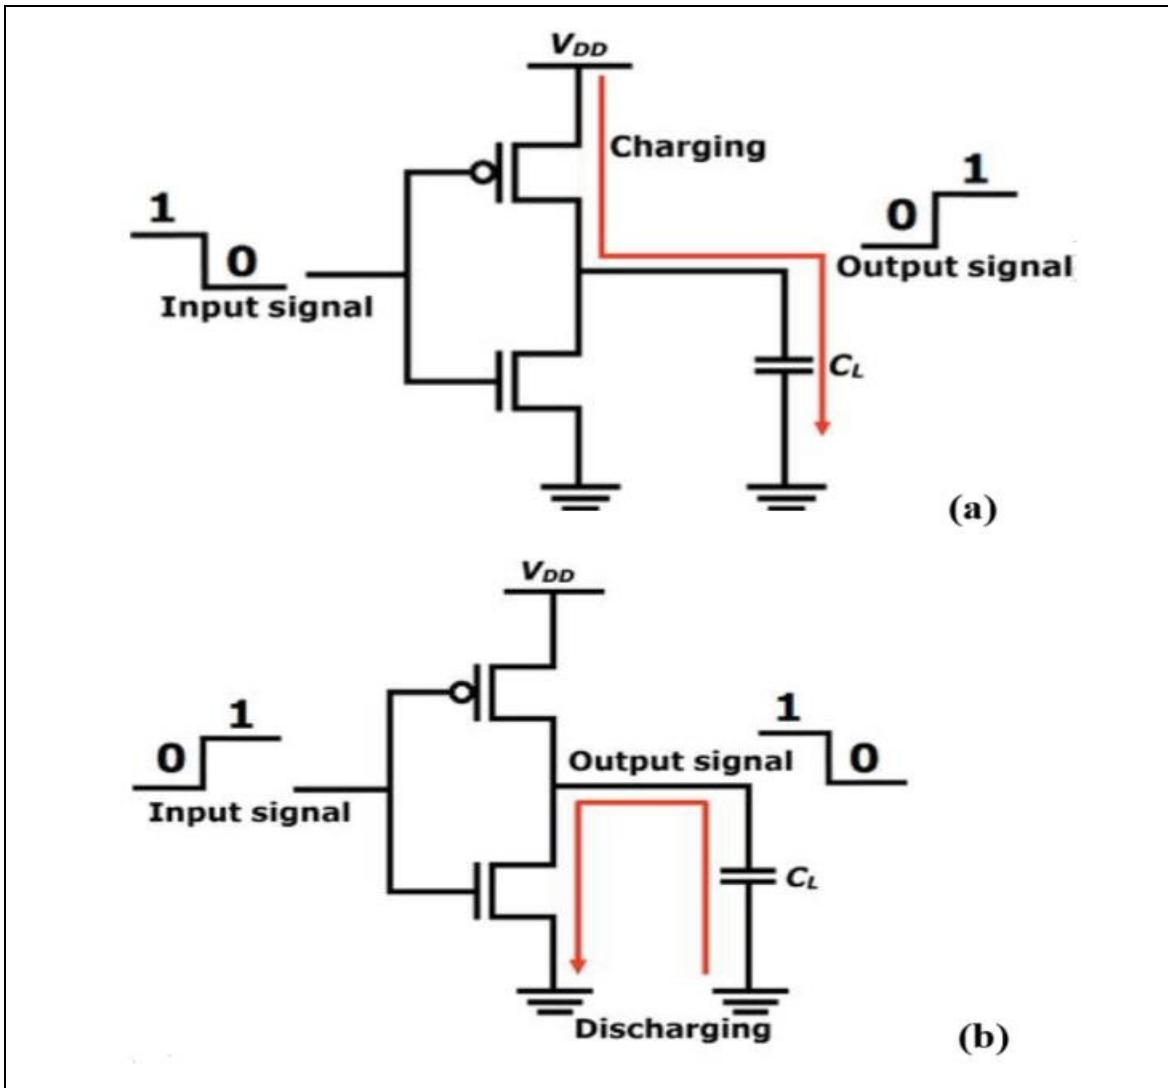

Figure 3: (a) Charging path ( $V_{DD}$  to  $C_L$ ) (b) Discharging path ( $C_L$  to GND) in CMOS circuit
The power consumed by the circuit when it is performing computational task is known as dynamic power. This power dissipation occurs when the inverter switches, causing the load capacitance ( $C_L$ ) to charge and discharge as shown in Figure 3.
1. Connect the circuit on breadboard according to the given Figure 3 for implementing CMOS inverter with the load capacitor of 0.1uF. Provide +5V  $V_{DD}$  to the circuit.
1. Connect the circuit on breadboard according to the given Figure 3 for implementing CMOS inverter. No need to connect a load capacitor. Provide +5V  $V_{DD}$  to the circuit.
1. Connect the circuit on breadboard according to the given Figure 3 for implementing CMOS inverter with a load capacitor of 1uF. Provide +5V  $V_{DD}$  to the circuit.